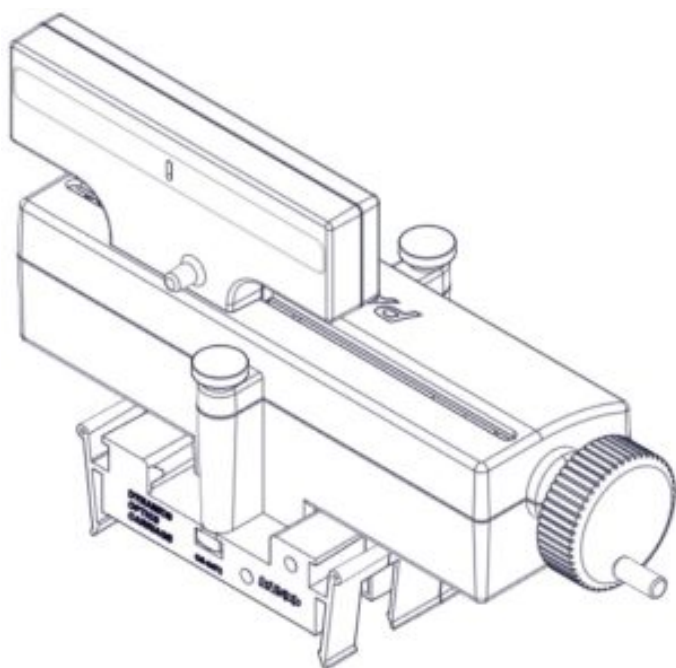

Figure 3. Diffraction Scanner mounted to two Dynamics Optics Carriages.
2. Insert the front square nut into the center slot of a Dynamics Track Carriage then tighten the front mounting screw (Figure 3).